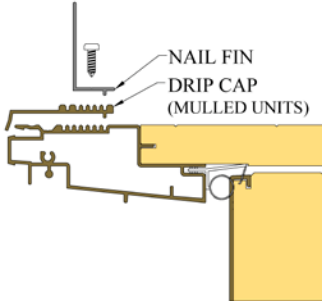

Fig. 8
- D) Install the supplied nail fin to both sides and top of the door as shown below. The location of the nail fin depends on the jamb depth of the rough opening. Ensure that the correct location is chosen prior to applying the nail fin. (Fig. 8)